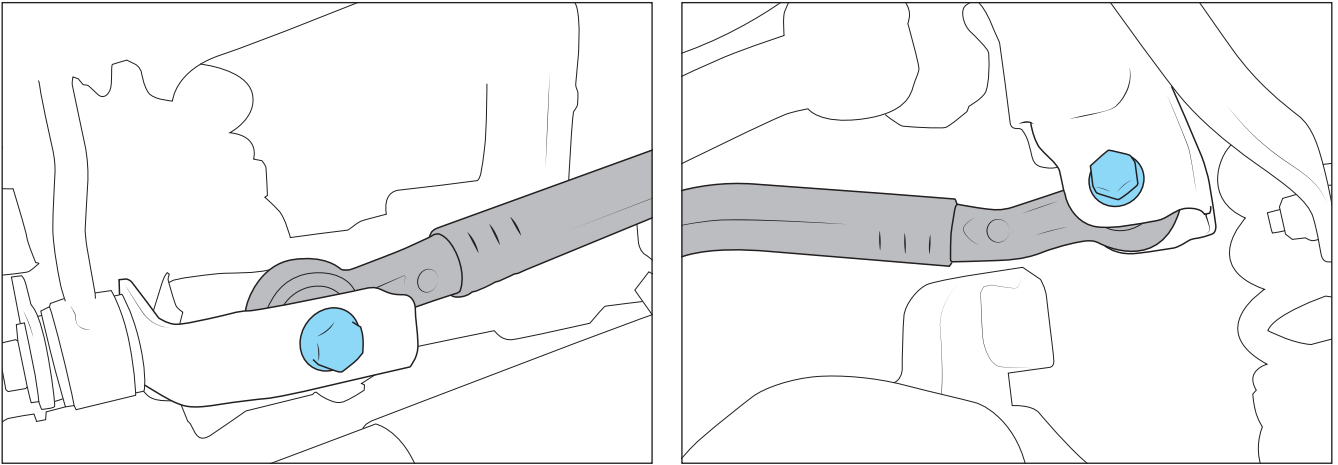

Figure 9
4. Loosen but DO NOT REMOVE track bar bolts (fig. 9).